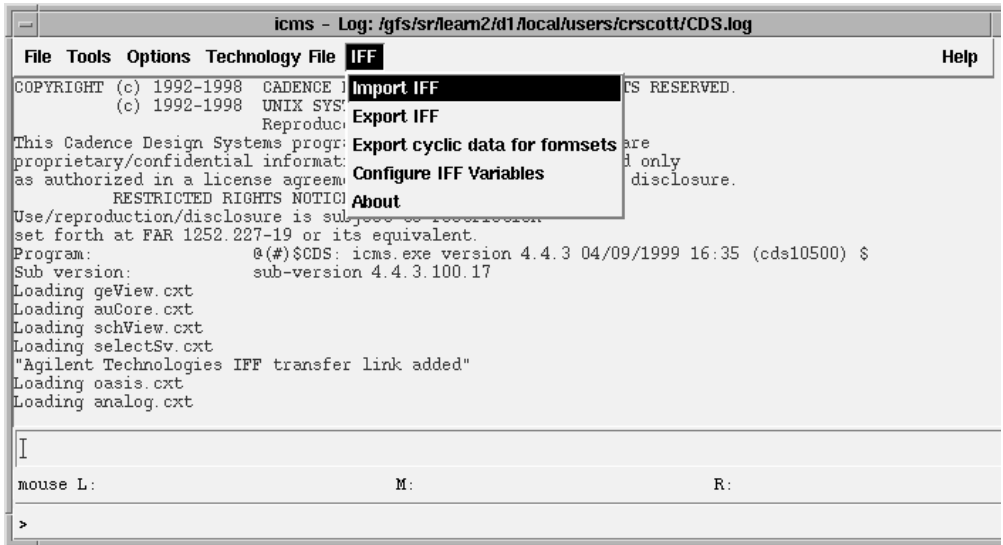

Figure 2-1. Cadence CIW Window
3. Check that the *IFF* menu item is displayed in the CIW menu bar as shown in Figure 2-1. For detailed information on the available command options, refer to Chapter 5, Importing IFF Schematic Files into DFII and Chapter 6, Exporting IFF Schematic Files from DFII.